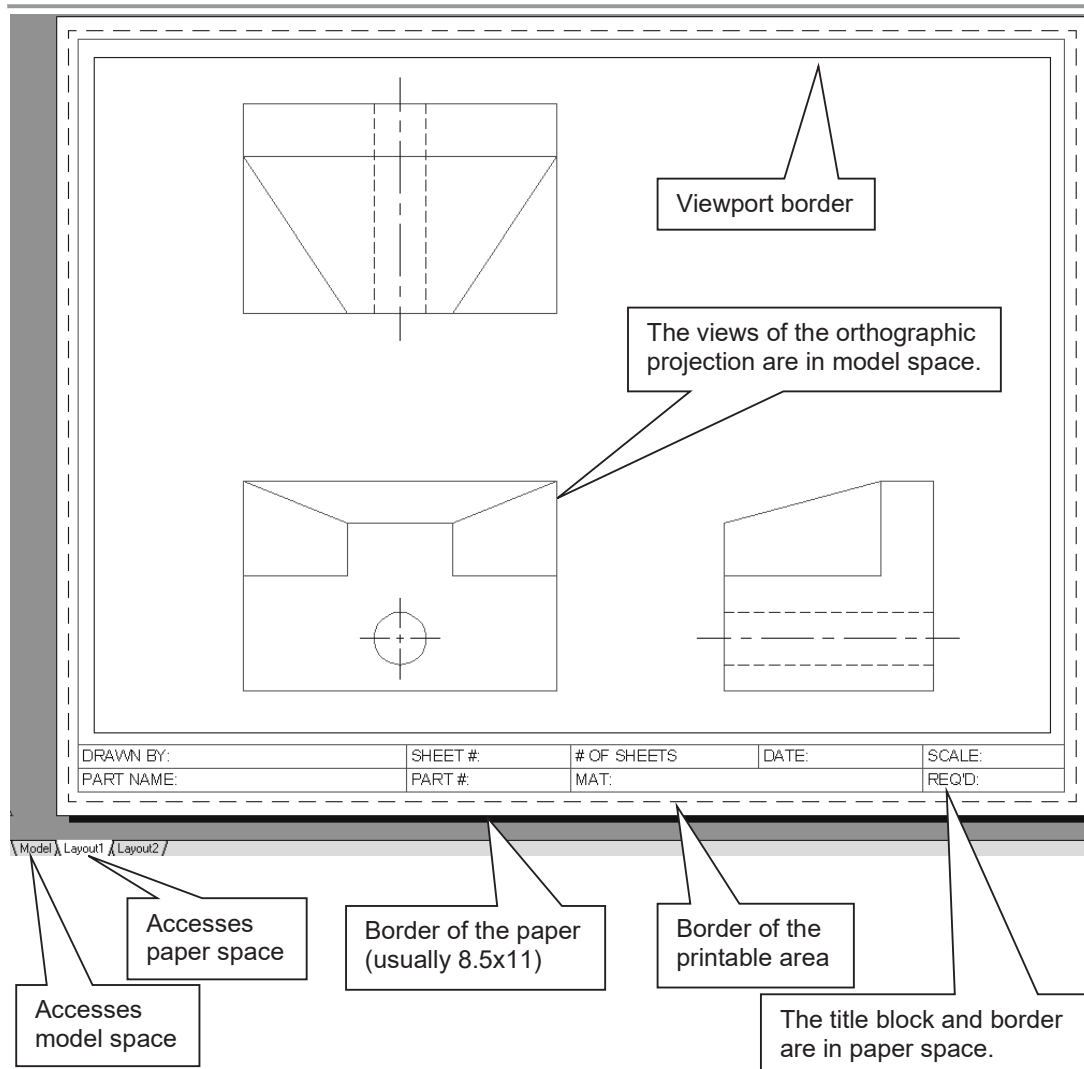

Figure 4.8-1: Paper space
- With annotative scaling, it is not necessary to calculate the appropriate dimension and text scale. Annotative scaling will be discussed in detail in the “*Dimensioning in AutoCAD®*” chapter. Figure 4.8-1 shows an example of what you would see in paper space before plotting.